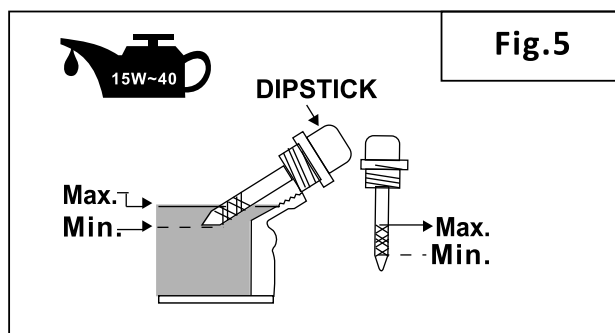

Fig.5
3. Using an oil funnel or appropriate dispenser, slowly add oil into the oil fill, being careful not to overfill the unit. Use the dipstick to check the oil level as you fill the tank. The oil should reach the section between the upper (Max.) and lower (Min.) level (Fig.5). Reinstall the oil dipstick and firmly tighten it. Wipe clean any spilled oil.